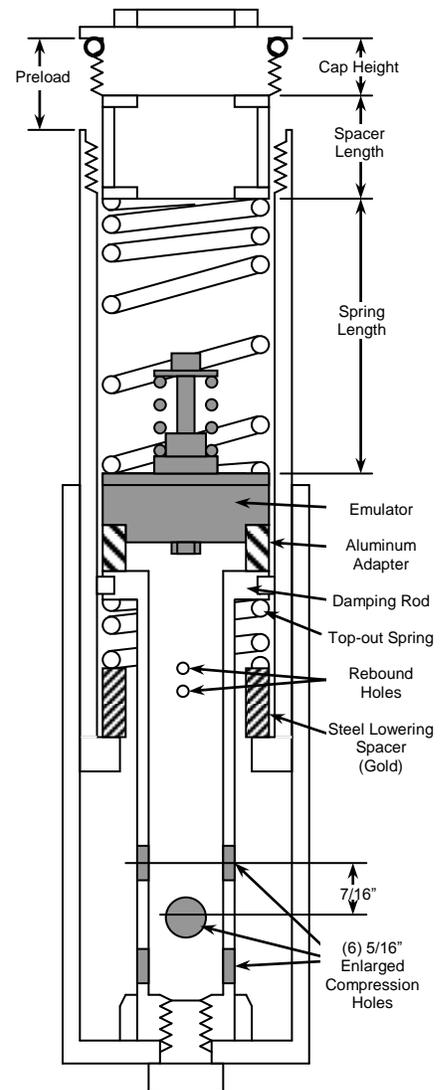

Figure 1
- 2 Drill the existing Compression Holes larger and add additional holes. No matter how many stock compression holes there are, you must end up with six 5/16 inch (8mm) holes (3 sets of 2 holes) (see Figure 1). When drilling new holes, space them lengthwise at 7/16" (10mm) increments. Each set of two holes must be perpendicular to the last set (figure 1). After drilling, chamfer and deburr the compression holes, inside and out. **Do not modify the rebound holes.**
- 3 If you want to lower the bike 1 inch (recommended for custom show bikes only) you must add the steel (gold) Lowering Spacer under the Top-out Spring. The Top-out Spring is located inside the fork on the damping rod, its main purpose is to provide a bit of cushion when the fork reaches full extension. See Figure 1.
(See figure 1) Extend the fork all the way. Install the Aluminum Adapter and the Emulator by dropping them down the fork tube. The Emulator must sit on top of the Adapter with the Emulator Valve Spring facing up. Visually check to make sure the Emulator is sitting squarely on top of the Adapter.
Cut the spacers with a tubing cutter available at hardware stores. Washers must be installed on both ends of the spacer. The spacer must not rest on the spring or the cap directly. Double-check your preload by stacking the spring, spacer, washers and cap and measuring the distance from the sealing lip on the cap to the top of the fork tube (see Figure 1).